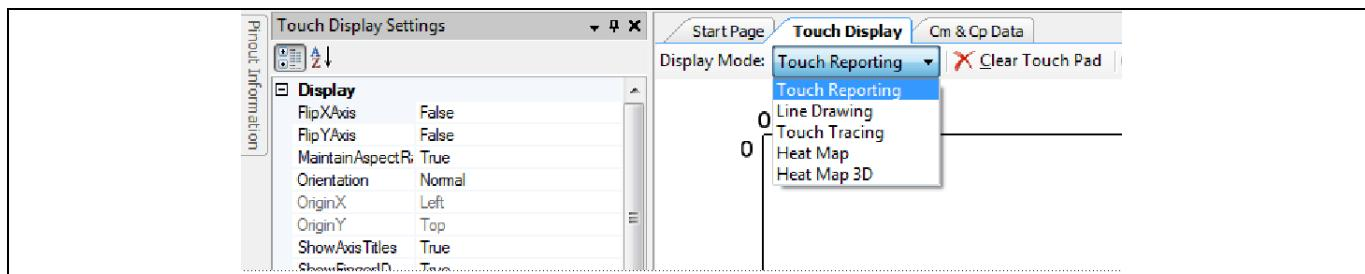

Figure 16 Display Mode - Touch Reporting Selection
16. Select **Touch Reporting** in the Display Mode drop down menu as shown in Figure 16.